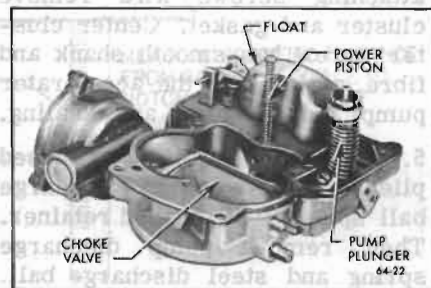

Figure 64-15—Air Horn Parts
1. Place air horn assembly inverted on bench. Remove float hinge pin and lift float assembly from cover. Remove float needle from the float arm. Remove float needle seat, fibre gasket and needle seat screen. See Figure 64-15.